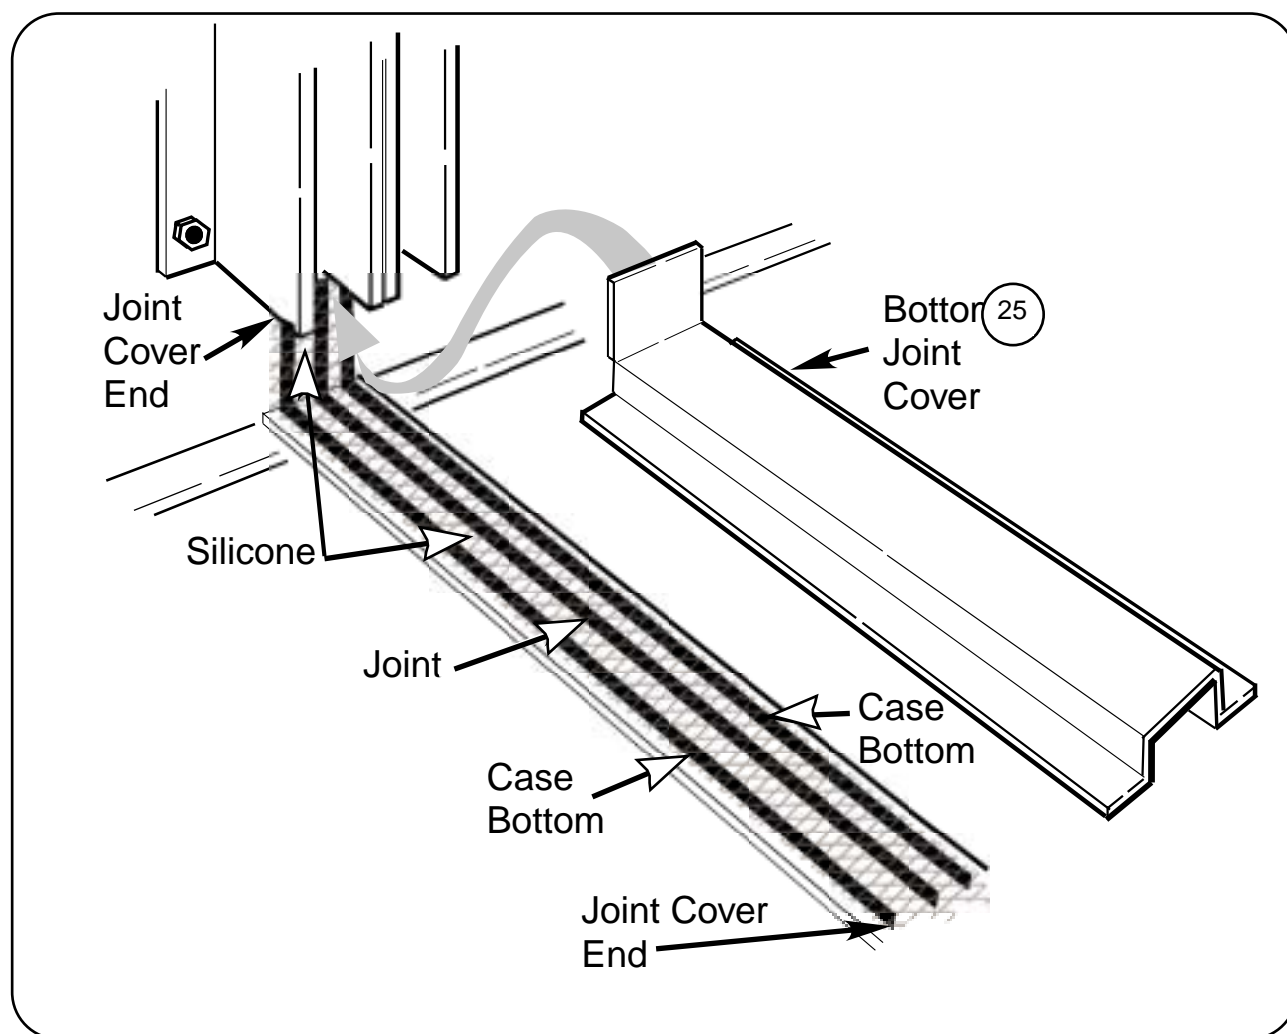

Figure 13. Installing and Sealing Joint Cover
- 19** Apply a continuous bead of **Silicone (Item – 4)** to the joint. Apply a continuous bead of silicone to each bottom. Press **Bottom Joint Cover (Item – 25)** over both cases. Also apply silicone over each end of the Joint Cover. See **Figure 13**.